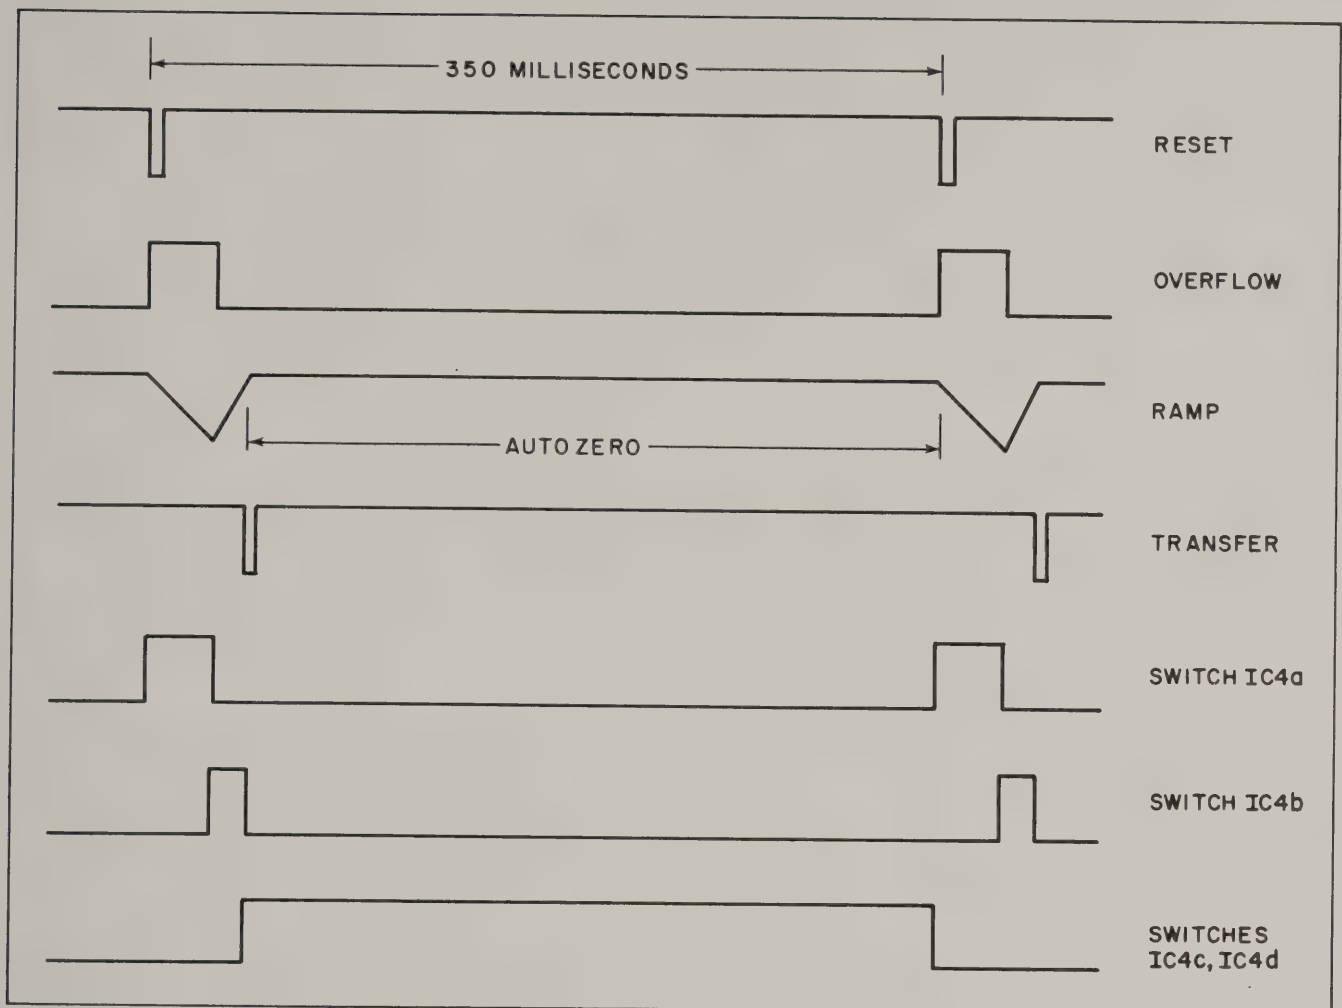

Figure 3-8 Digital Panel Meter Timing Diagram
**3-57.** Counter IC8 contains most of the digital circuitry required for the analog to digital conversion. (Refer to the timing diagram, Figure 3-8.) The conversion cycle begins when a reset signal generated by reset oscillator Q1-Q2 resets the internal counter chain and clears the overflow flag in integrated circuit IC8. Analog switch IC4a is enabled through gate IC5a, and the input dc signal from the audio circuits is connected to integrator A3 through analog switch IC4a and buffer A2. A negative going ramp generated by integrator A3 causes comparator A4 to be set high. When the counter chain overflows, analog switch IC4a is opened and analog switch IC4b is closed, thereby causing the integrator to ramp back toward zero volts. Comparator A4 fires at zero volts, causing the current count to be transferred into latches in integrated circuit IC8. Flip-flop IC6 is clocked simultaneously, and the auto zero cycle begins. Analog switches IC4c and IC4d are activated, and integrator A3 is zeroed by the feedback from comparator A4 through buffer A5. A zero level is maintained as a charge on capacitor C11 during the following conversion cycle. This cycle is repeated every 350 milliseconds.